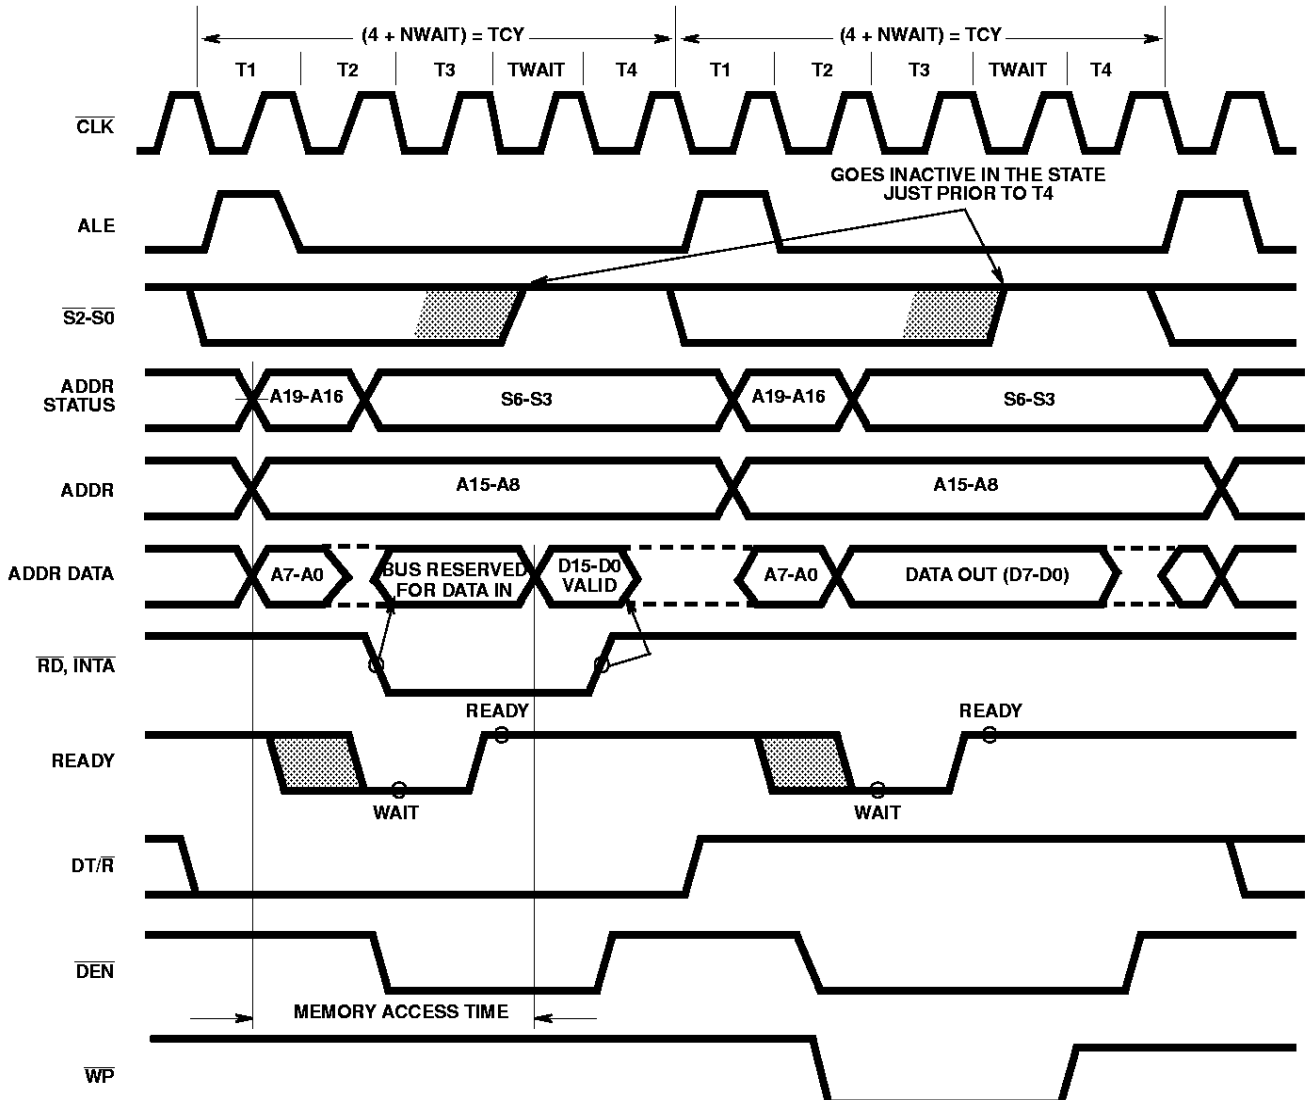

FIGURE 5. BASIC SYSTEM TIMING
Each processor bus cycle consists of at least four CLK cycles. These are referred to as T1, T2, T3 and T4. (See Figure 5). The address is emitted from the processor during T1 and data transfer occurs on the bus during T3 and T4. T2 is used primarily for changing the direction of the bus during read operations. In the event that a "Not Ready" indication is given by the addressed device, "wait" states (TW) are inserted between T3 and T4. Each inserted "wait" state is of
The read cycle begins in T1 with the assertion of the address latch enable (ALE) signal (see Figure 5). The trailing (low going) edge of this signal is used to latch the address information, which is valid on the address data bus (ADO-AD7) at this time, into the 82C82/82C83 latch. Address lines A8 through A15 do not need to be latched because they remain valid throughout the bus cycle. From T1 to T4 the IO/M signal indicates a memory or I/O operation. At T2 the address is removed from the address data bus and the bus is held at the last valid logic state by internal bus-hold devices. The read control signal is also asserted at T2. The read (\overline{RD}) signal causes the addressed device to enable its data bus drivers to the local bus. Some time later, valid data will be available on the bus and the addressed device will drive the READY line HIGH. When the processor returns the read signal to a HIGH level, the addressed device will again three-state its bus drivers. If a transceiver (82C86/82C87) is required to buffer the local bus, signals DT/R and DEN are provided by the 80C88.